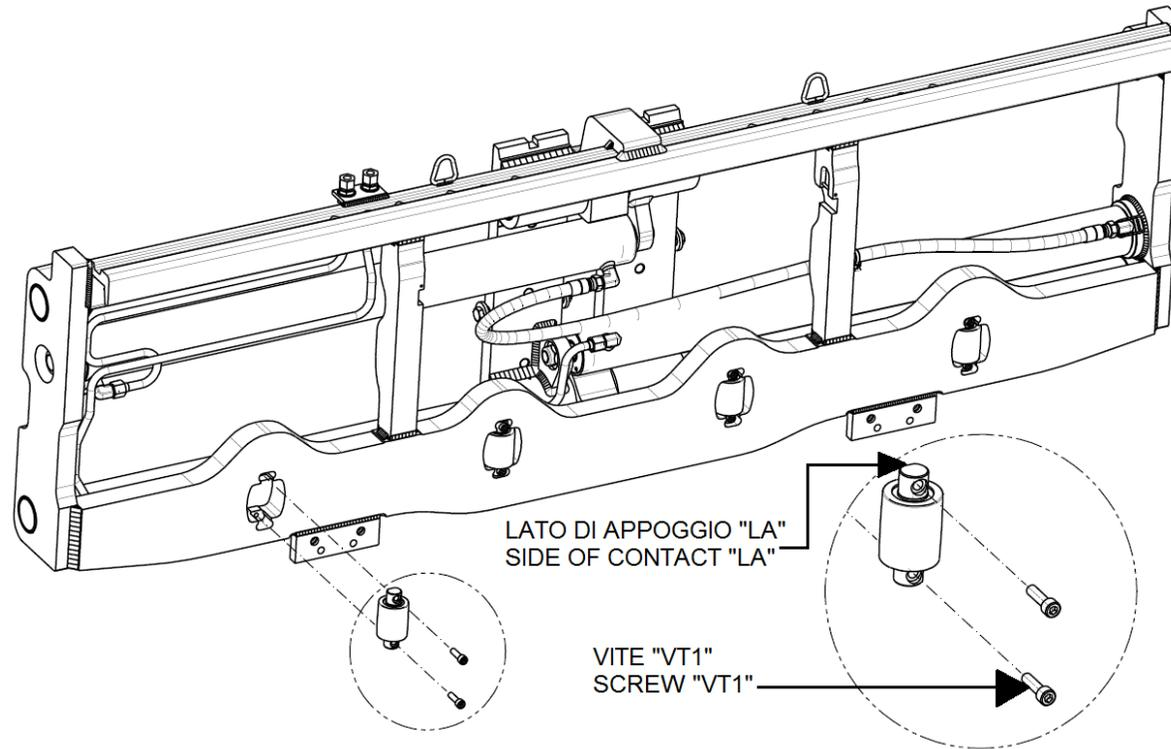

Fig. 034
7.2. Replacing slide blocks and rollers**7.2.1. Follow the instructions in 7.1****7.2.2. Remove the upper slide block(s) as indicated****Replace with new ones ensuring that the pegs of the block(s) fit correctly into the right place on the moveable frame. Grease with good quality grease.****Fig. 032****7.2.3. Replacing lower sliding blocks (positioners in class 2 and 3)****Remove the lower blocks as per Fig. 033. Mount the new blocks and grease with good quality grease.****Fig. 033****7.2.4. Replacing lower rollers (positioners in class 4)****Remove the lower rollers as shown in fig. 034, with ISO 3926 8 mm wrench. Mount the new rollers placing them correctly in the right place.****The roller's pin has a flat side ("LA") that must make contact where the lower roller lies (see diagram). Tighten the screws "VT1", tightening to 50 Nm – 38 Ft-lbs. Use "Loctite 243" threadlocker on the "VT1" screws.**